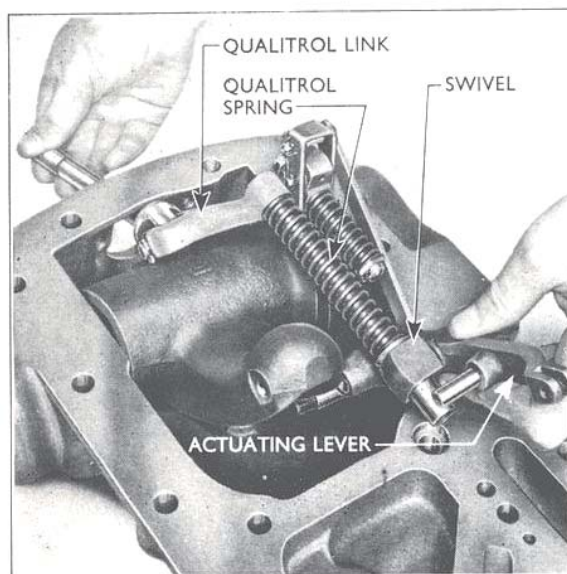

Fig. 34
8. Position the resulting assembly in the lift cover so that the main control spring plunger protrudes through the rear of the cover and the qualitrol swivel faces the centre of the housing. (See Fig. 34.)